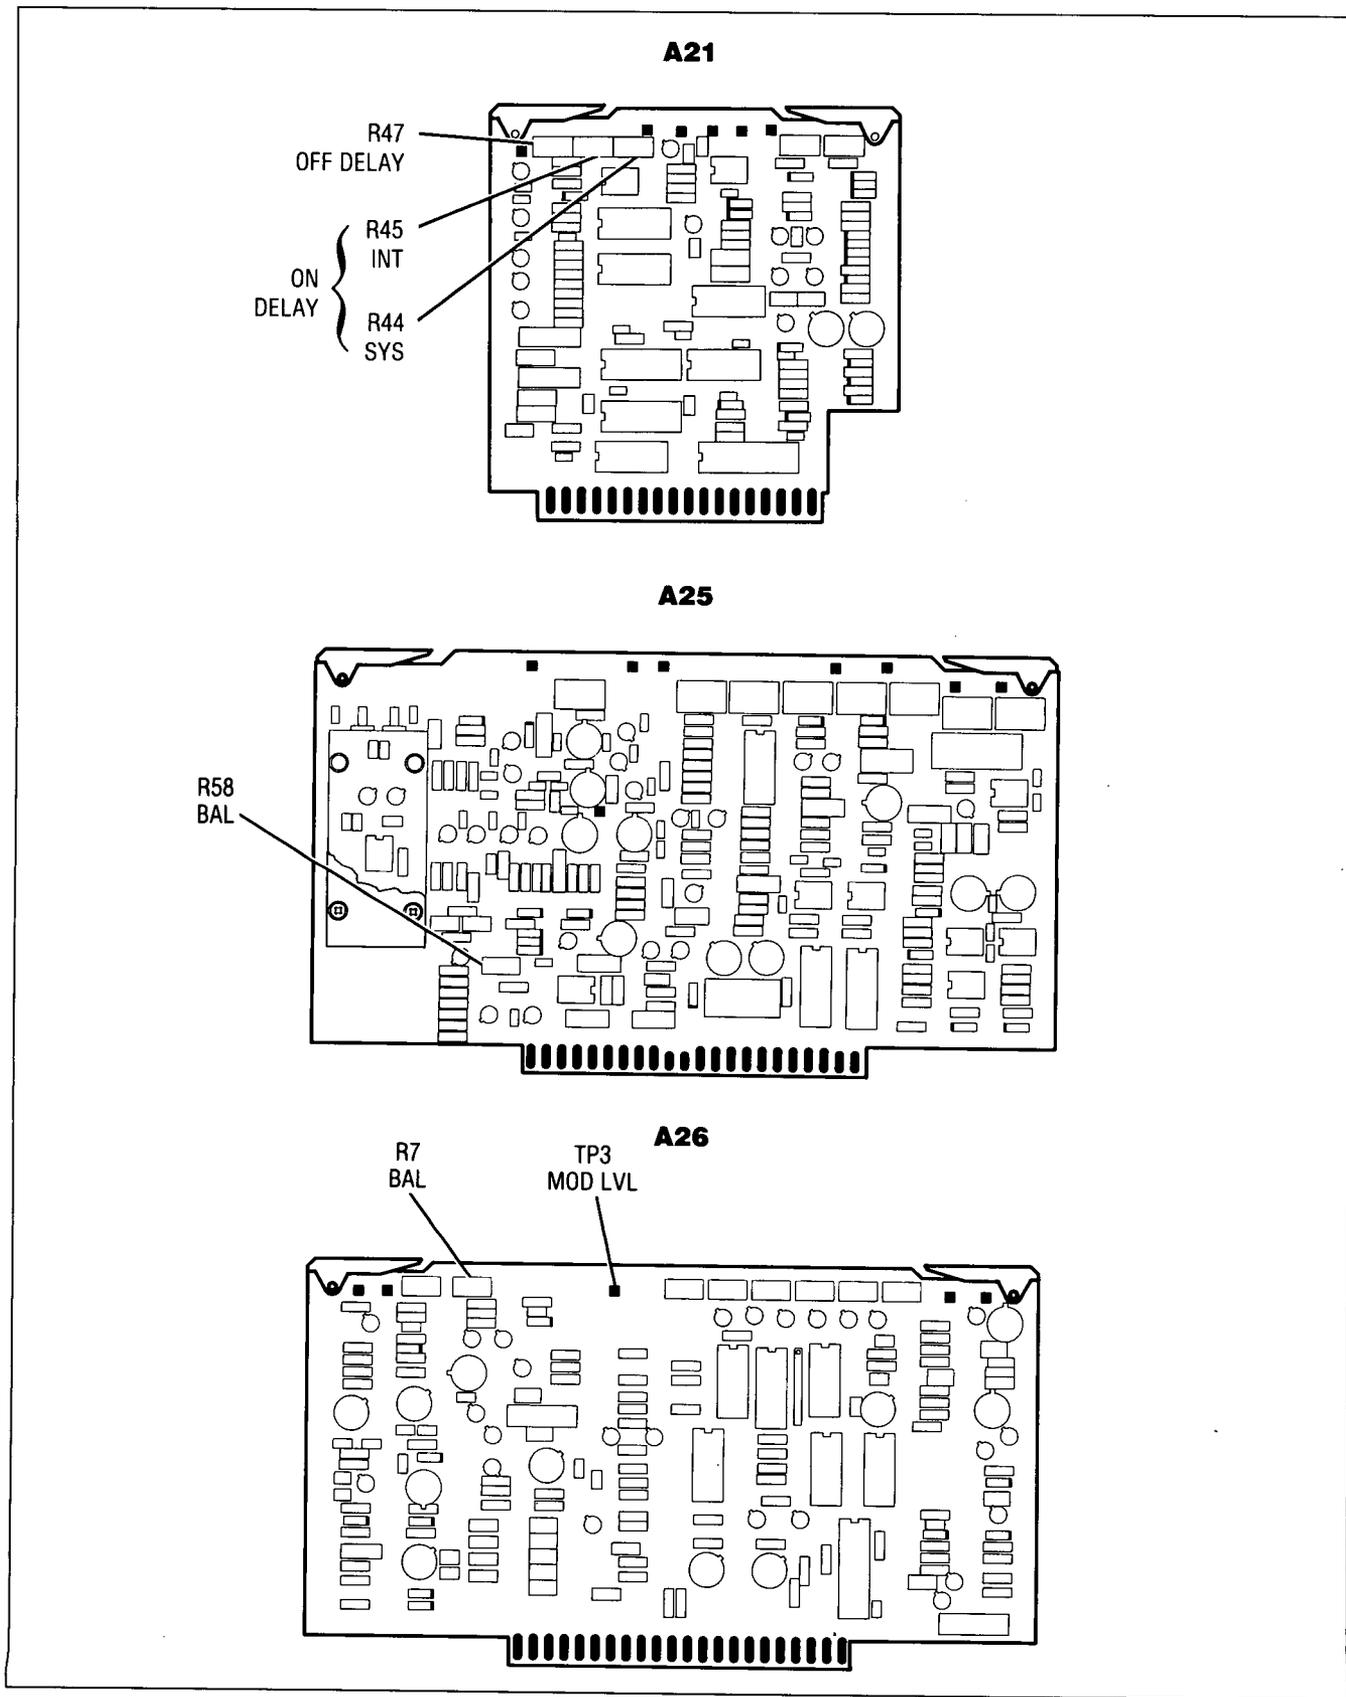

Figure 5-65. Pulse Adjustments Location
4. On the DUT, press **[INSTR PRESET]**. Press **[PULSE]** ON. Press **[CW]** and enter **[5] [GHz]**. Press **[SHIFT] [PWR SWP]** and enter **[0] [dBm]**. Use the step keys to step in 10 dB RF attenuation. If the DUT does not include an RF attenuator, connect a 10 dB pad to the RF output. Set A21R45 (ON DELAY-INT), A21R47 (OFF DELAY), and A21R44 (ON DELAY-SYS) fully counterclockwise. (See Figure 5-65.)